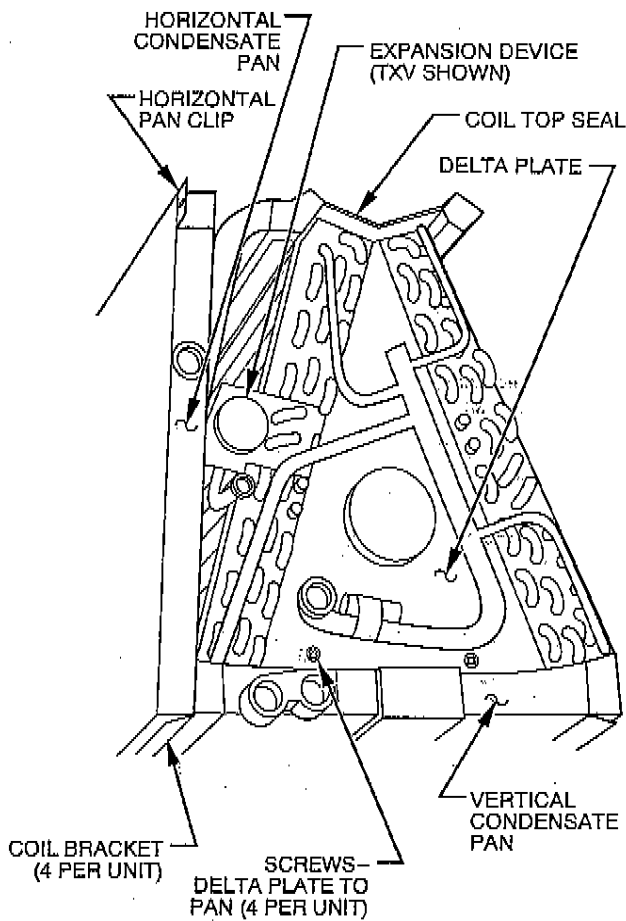

Fig. 14—A-Coil Component Location
8. **Upflow or Horizontal Applications Only**—Remove horizontal condensate drain pan from coil/condensate pan assembly. (See Fig. 14.)
9. Remove 4 coil brackets. (See Fig. 14.)
10. Remove screws at delta plates and remove coil from vertical condensate drain pan. (See Fig. 14.)
11. **Horizontal Applications Only**—Remove coil top seal (attached with 4 screws) and J-shaped tube from original coil and install it in same position on new coil. (See Fig. 14.)
12. Place coil assembly in plastic condensate pan and secure using 4 screws through delta plate. (See Fig. 14.)
13. **Horizontal and Upflow Applications Only**—Attach 4 coil brackets to coil/pan assembly. (See Fig. 14.)
17. **Horizontal Applications Only**—Reinstall horizontal pan clip. Secure with 1 screw. (See Fig. 14.)